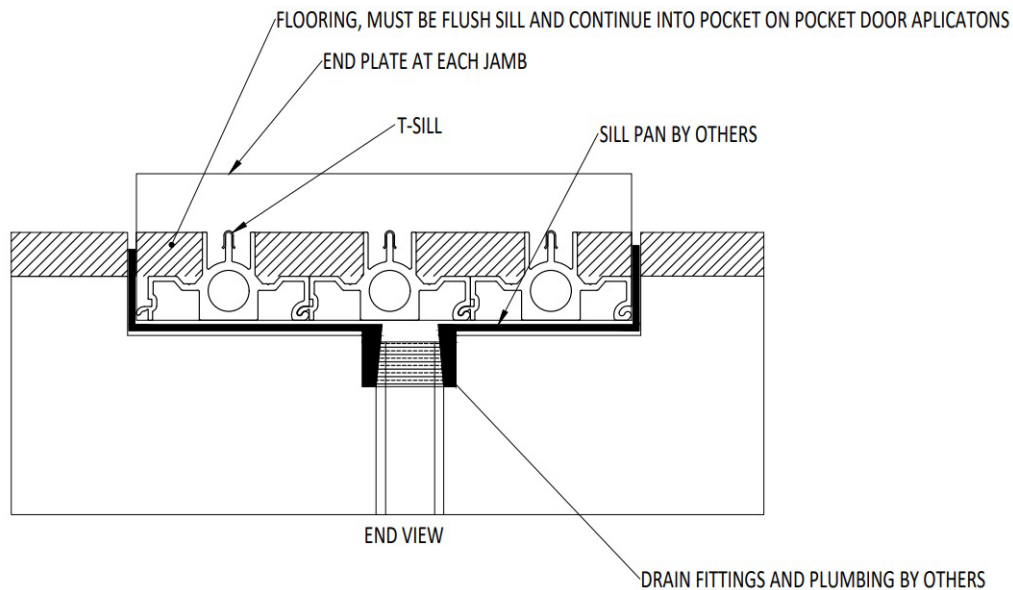

Figure 6
- Front Weep with pan and drain by others (See Figure 6)
8. **Front Weep Sills** - sills that have a weep slot located on the bottom surface 6" from each end and 6" from each stagger location will allow water to drain out the bottom of the sill directly into a water management system supplied by others, such as a sill pan or equivalent. See Figure 6. If a slot drain or similar system is used, the door sill pan can be drained into the slot drain. Ensure that the slot drain bottom is adequately below the sill pan to ensure water only flow away from the sill. (See Figure 6). Proceed to step 10.